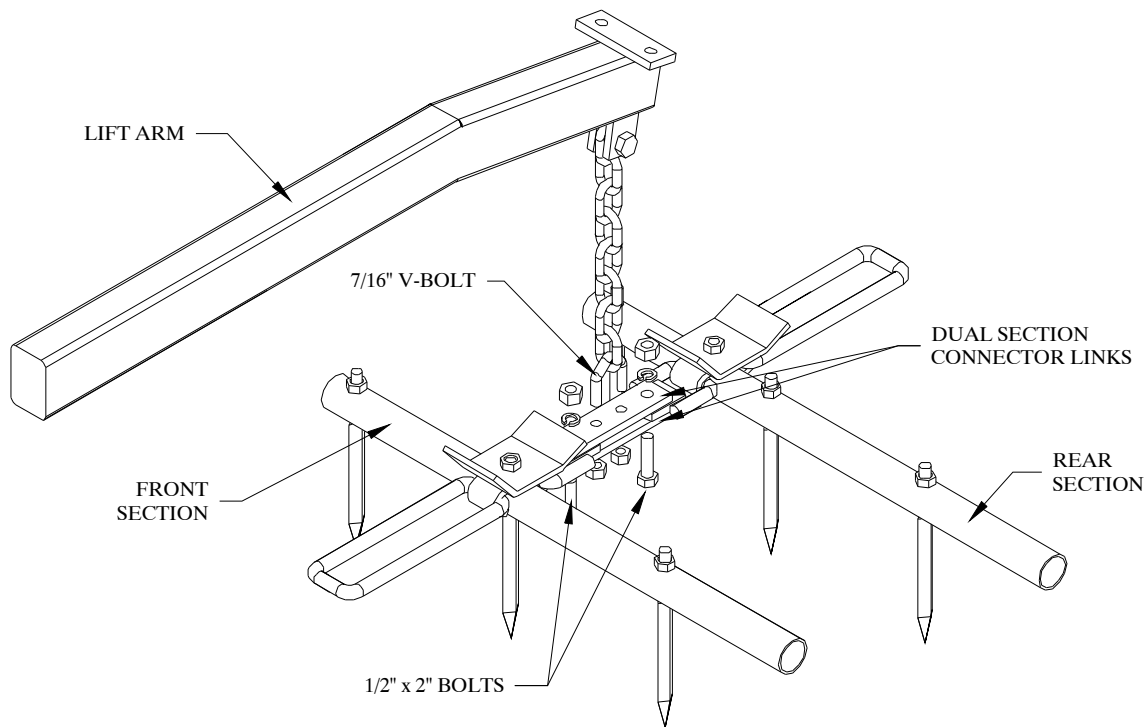

Figure 18
2. Bolt the front and rear harrow sections together using two 5/16" x 1 1/2" x 6" dual section connector links at each pull tab. Refer to Figure 18. Use two 1/2" x 2" bolts, lock washers, and hex nuts. *Do not* tighten yet.